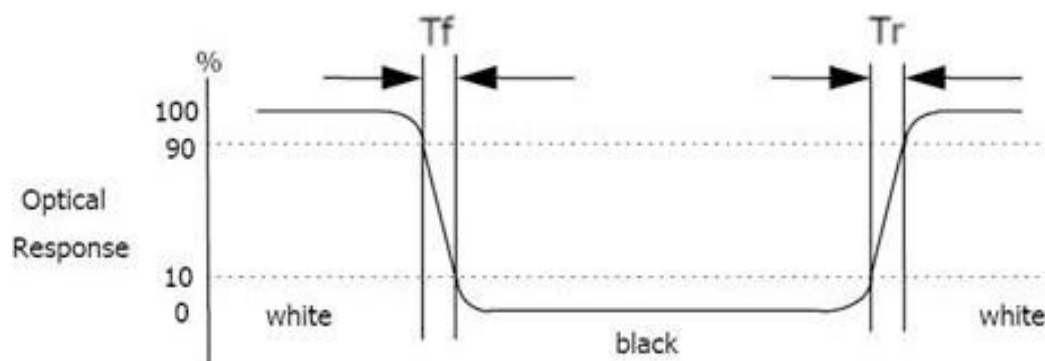

Figure 9: Response Time Testing
6. The electro-optical response time measurements shall be made as FIG.9 by switching the “data” input signal ON and OFF.